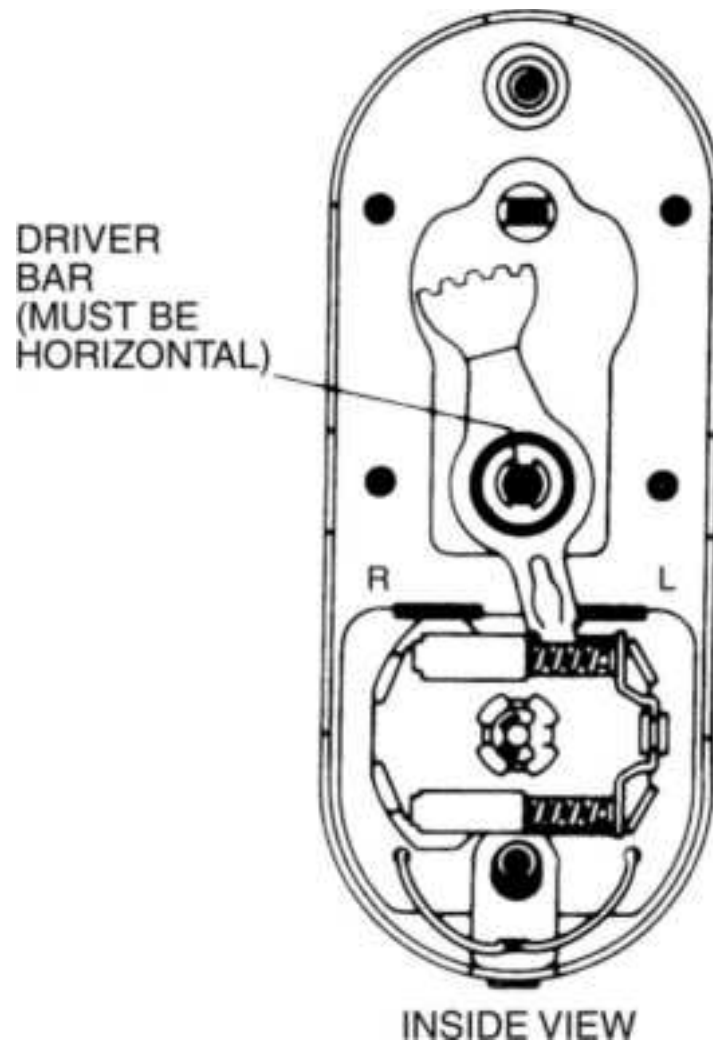

**Figure 13.81** Changing hand, Step 12.
12. Install the driver bar—the bar is horizontal (Fig. 13.81 ).